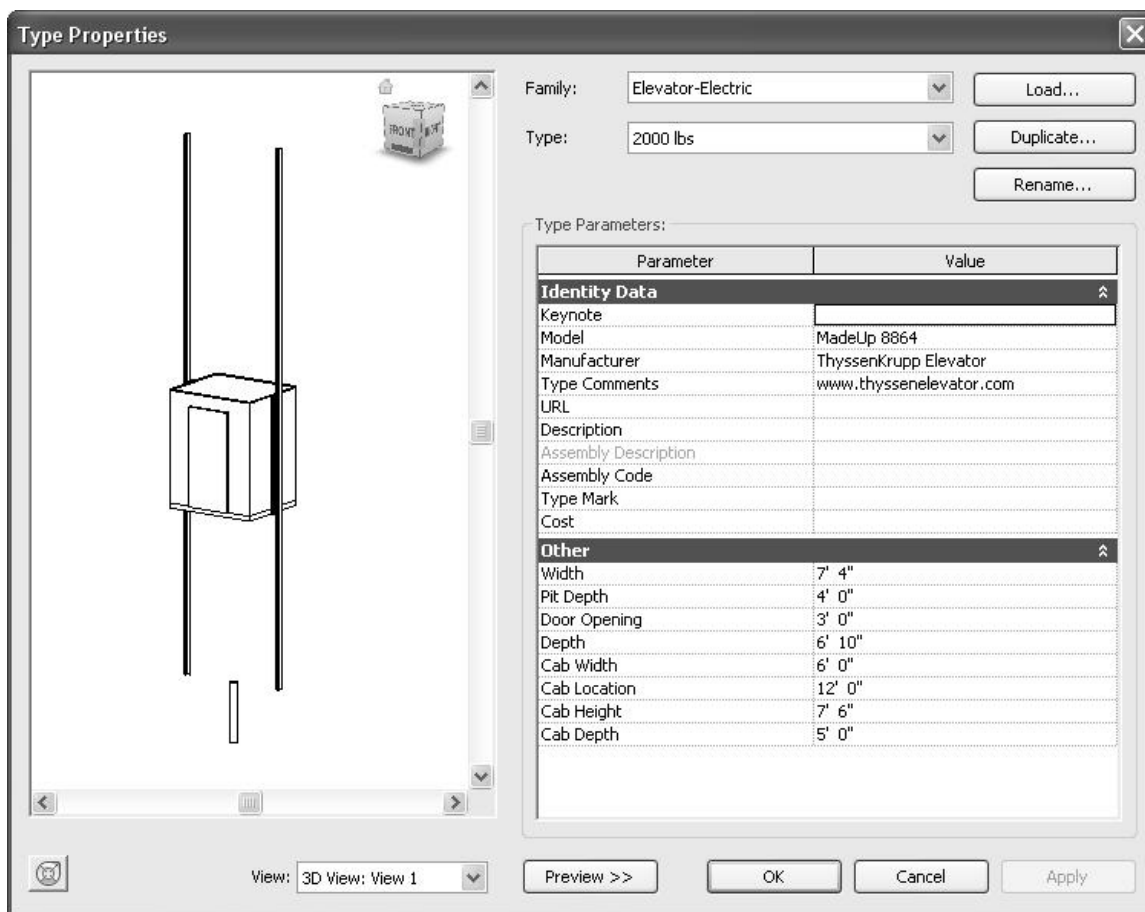

Figure 3-4.6 Elevator properties
15. Add the following information (Figure 3-4.6):